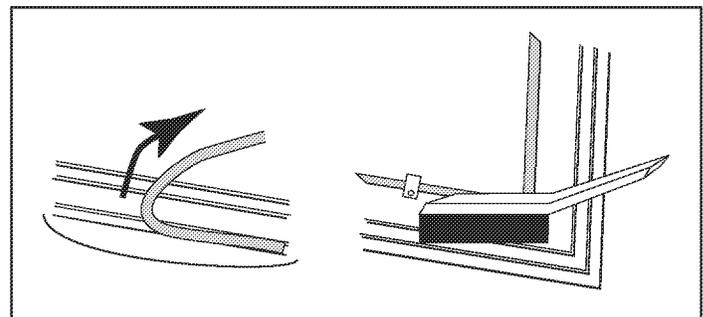

Figure 2.14 - Remove gasket then clean channel with wire brush.
1. Remove the existing gasket by grasping an end and pulling firmly. (Figure 2.14)
2. Use a wire brush or the tip of a screwdriver to clean the channel of any remaining cement or bits of gasket. Remove stubborn deposits of cement with a cold chisel if necessary. (Figure 2.14)